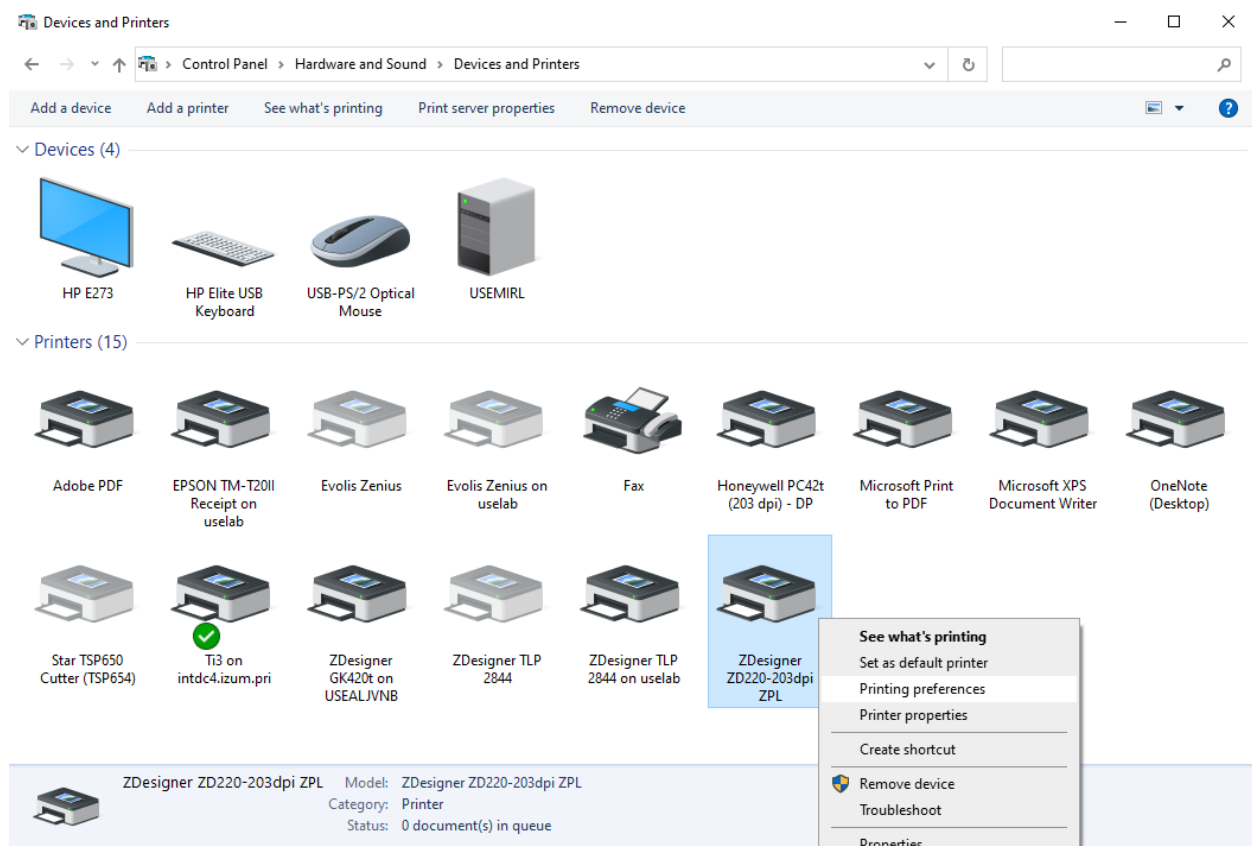

Figure 2: Control panel with printers and devices
- Figure 2: Control panel with printers and devices2
Once the driver is installed, the settings must be customised before you start printing the labels. Go to **Control Panel** and select **Devices and Printers**. All available printers will be displayed. Select the printer *ZDesigner ZD220-203dpi ZPL* and right-click on it. In the additional options, select **Printing Preferences** (see Figure 2).